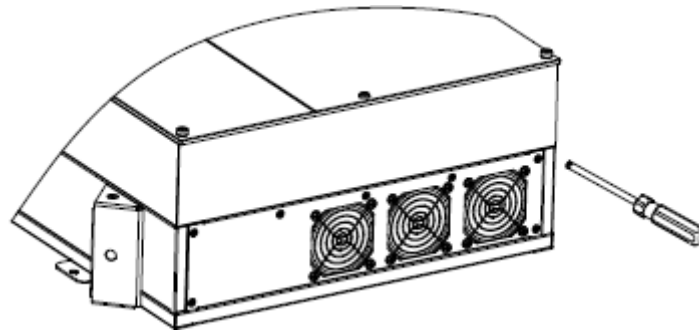

Fig.2.1.8
- 3) Screw off the screws to open the fans cover with suitable tool, then fans will be seen, as Fig.2.1.8.